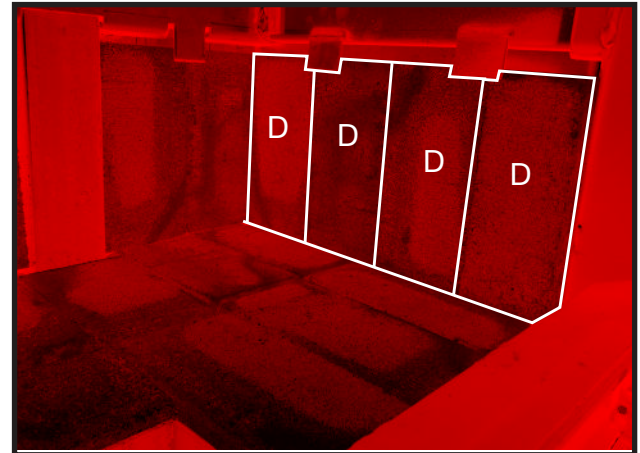

Figure 18: Side wall brick placement.
4. Place 2 "D" bricks along one of the side walls by slipping them up under the side brick rail tabs (Figure 18) and pushing to the rear, past the back brick. Place two more "D" bricks in the remaining opening at the front of the firebox and eliminate any gaps between the bricks by shifting the bricks toward the rear wall.